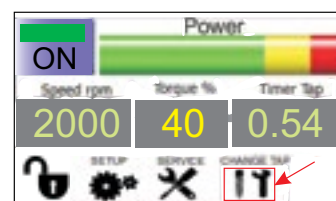

FIG. 14
- Press on **CHANGE TAP** (FIG. 14). The signal will start blinking;
- Press **CHANGE TAP** (FIG. 14);